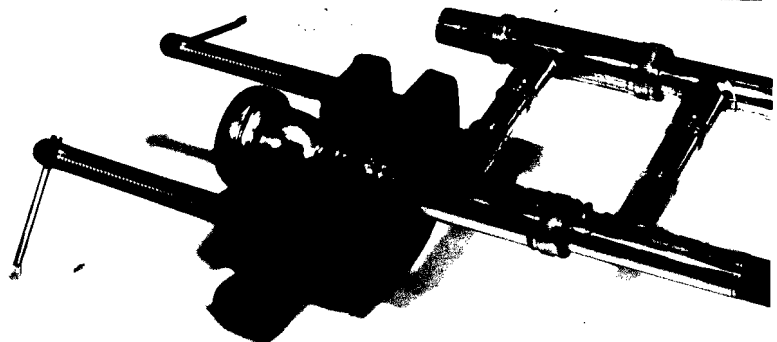

Figure 70
3. Place the mouthpiece and the mouthpiece receiver in the puller (Figure 70).